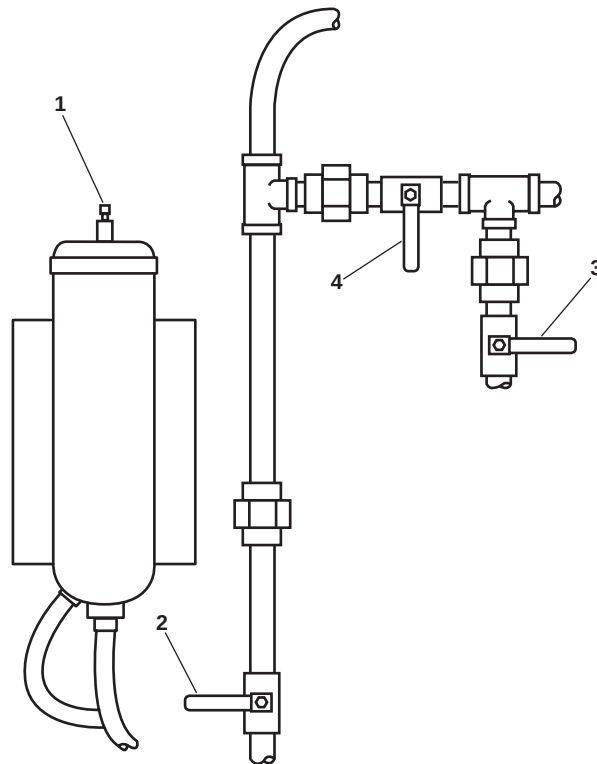

Figure 1. Brominator
1. Press the air-bleeder button (figure 1, item 1) to bleed all air out of the canister.
- a. PW-38, BROMINATOR OUTLET (figure 1, item 2)
- b. PW-37, BROMINATOR INLET (figure 1, item 3)
4. Verify that valve PW-36, BYPASS-BROMINATOR (figure 1, item 4) is CLOSED.